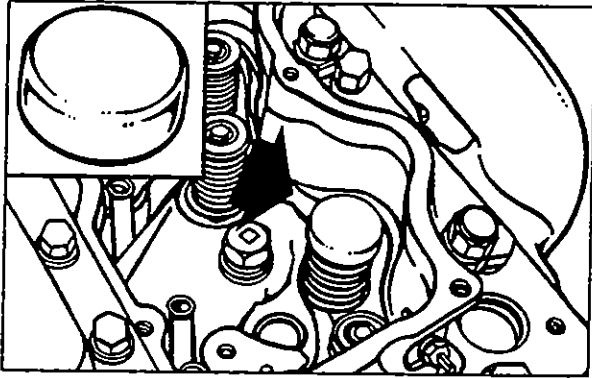
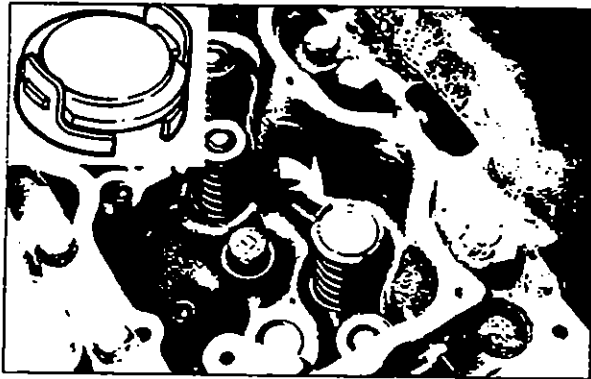

Fig. 1.5.25
Fig. 1.5.26
The valve cap shown in Fig. 1.5.25 is currently used for Models C336 and 336A engine brakes. It can be used as a replacement part, when necessary, for the former cap used with the Model C336. The valve cap shown in Fig. 1.5.26 was previously used in the Model C336 engine brake
**THE VALVE CAP SHOWN IN FIG. 1.5.26 MUST NOT BE USED IN MODEL 336A ENGINE BRAKES. SERIOUS ENGINE DAMAGE MAY RESULT.**